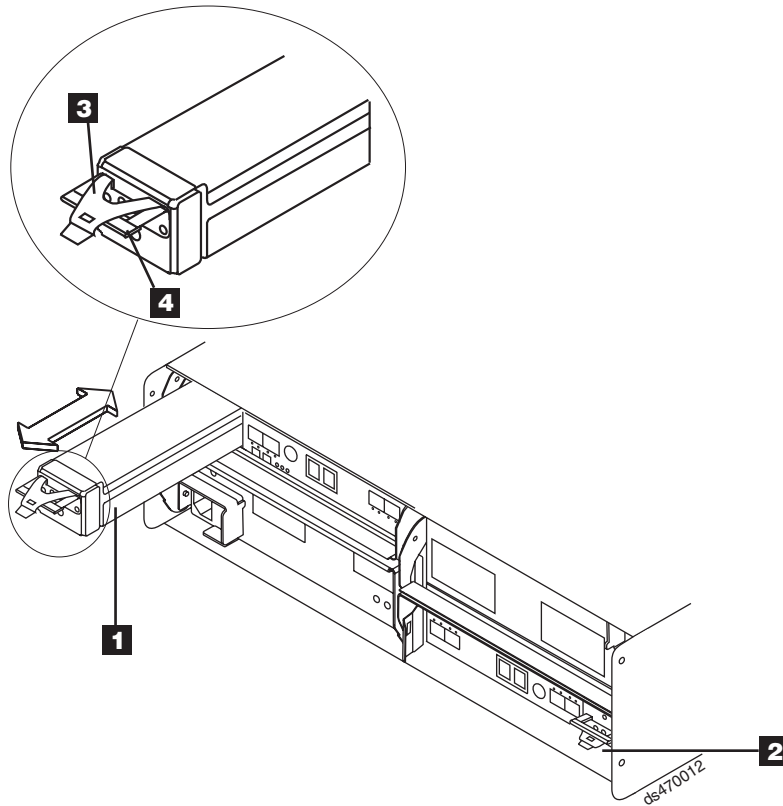

Figure 115. Removing and replacing a battery unit from the controller chassis
5. To remove the failed battery unit from the RAID controller, press the battery unit latch (the coral colored tab **3**) toward the black colored battery pull handle (**4**) to unlatch the battery from the DS4700 Express chassis and slowly pull the battery unit from the controller chassis using the black handle, as shown in Figure 115 on page 174.